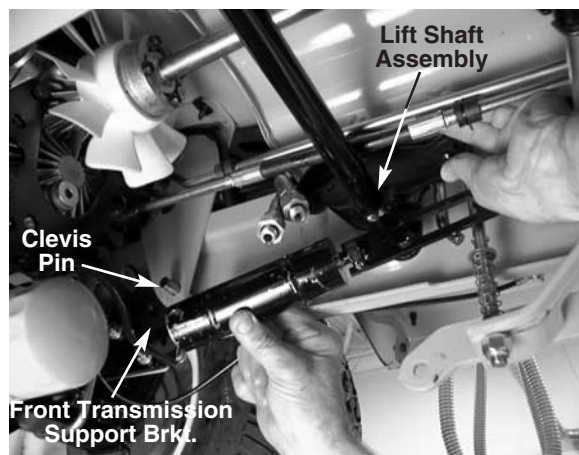

FIGURE 2.
4. Pull the cylinder towards the center of the machine and release the cylinder from the clevis pin. See figure 2.